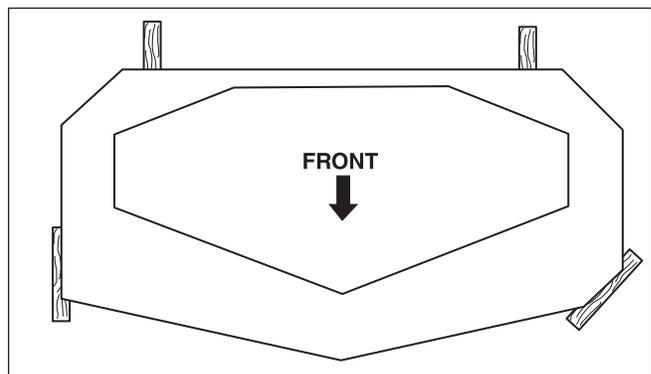

Figure 38. 2 x 4 Locations
6. Block up the mower deck until all hanger chains are slack. Refer to Figure 38.